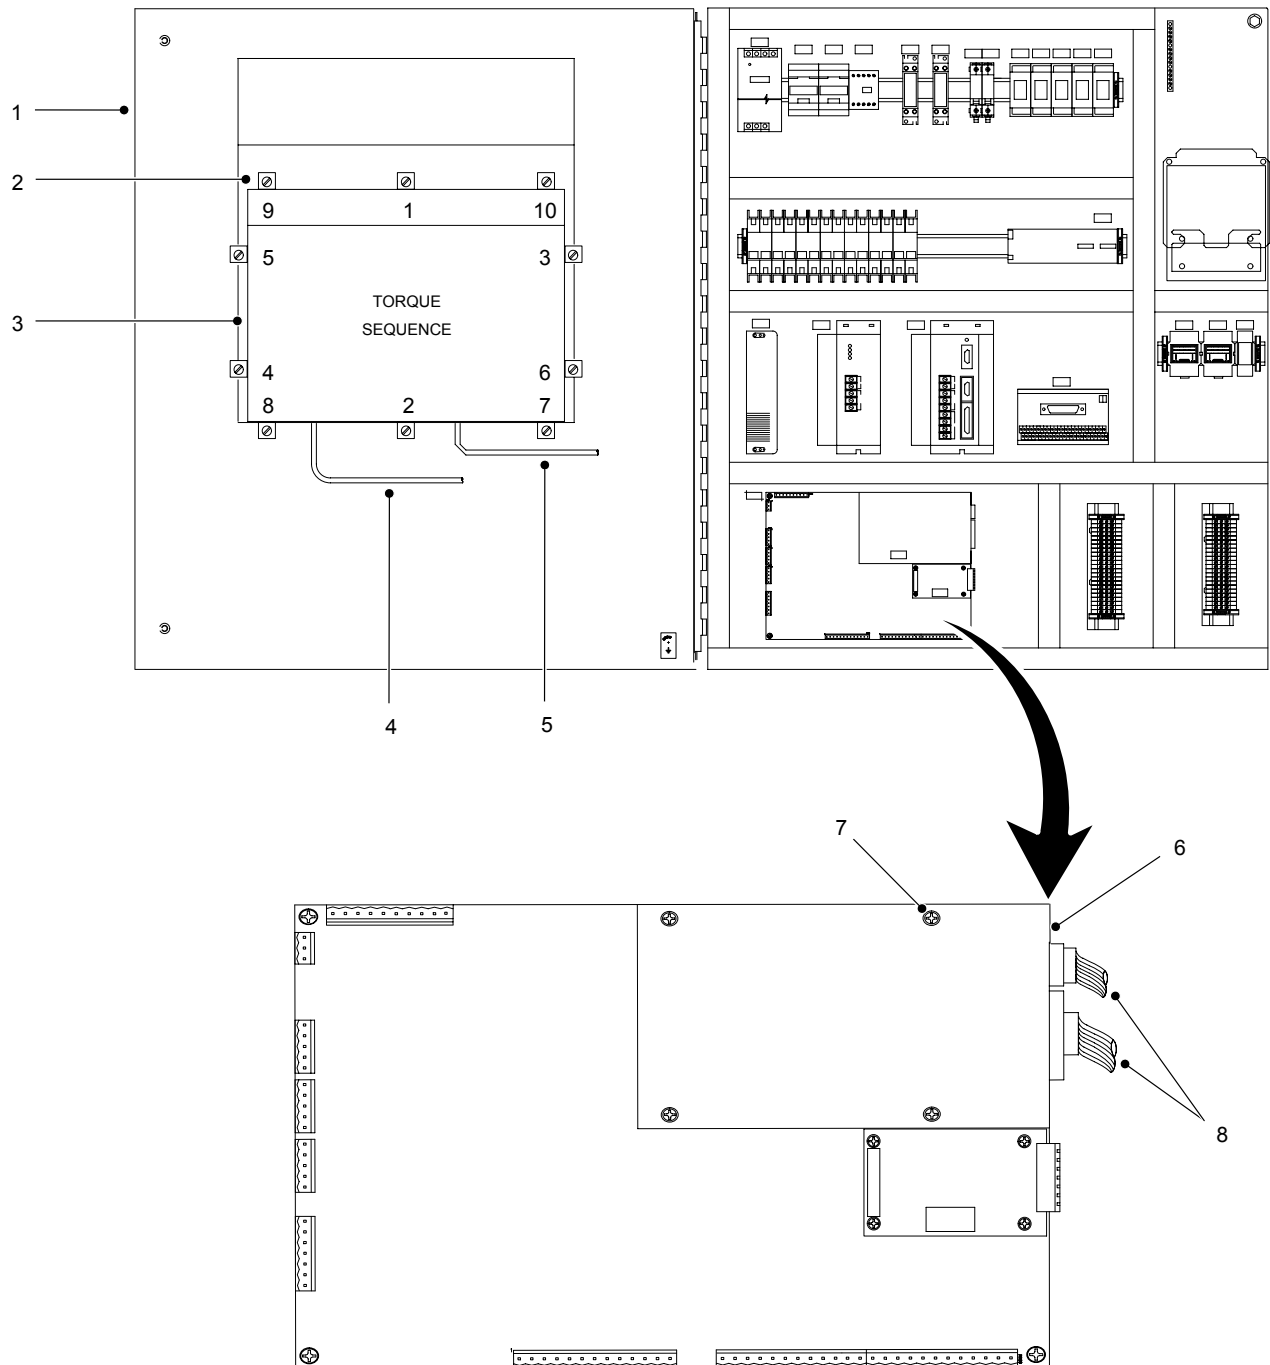

Figure 8 Typical Repairs
2. See Figure 8. Open the enclosure door (1).
3. Disconnect the AC (4) and Serial (5) cables from the operator interface (3).
4. Remove the mounting clips (2) securing the operator interface (3) to the enclosure door (1). Remove the operator interface from the enclosure door (1).
5. Make sure that the sealing gasket on the operator interface (3) is properly positioned.
6. Install the new operator interface (3) into the enclosure door (1).
7. Install the mounting clips (2). Using the torque sequence shown in Figure 8, tighten the mounting clips to 10 in.-lb (1.1 N•m).
8. Connect the AC (4) and Serial (5) cables to the operator interface (3).
9. Close the enclosure door (1).
3. Disconnect the electrical connectors (8) from the PCA (6).
4. Remove the screws (7) from the PCA (6).
5. Install the new PCA using the screws (7). Do not over tighten the screws.
6. Connect the electrical connectors (8).
7. Close the enclosure door (1).